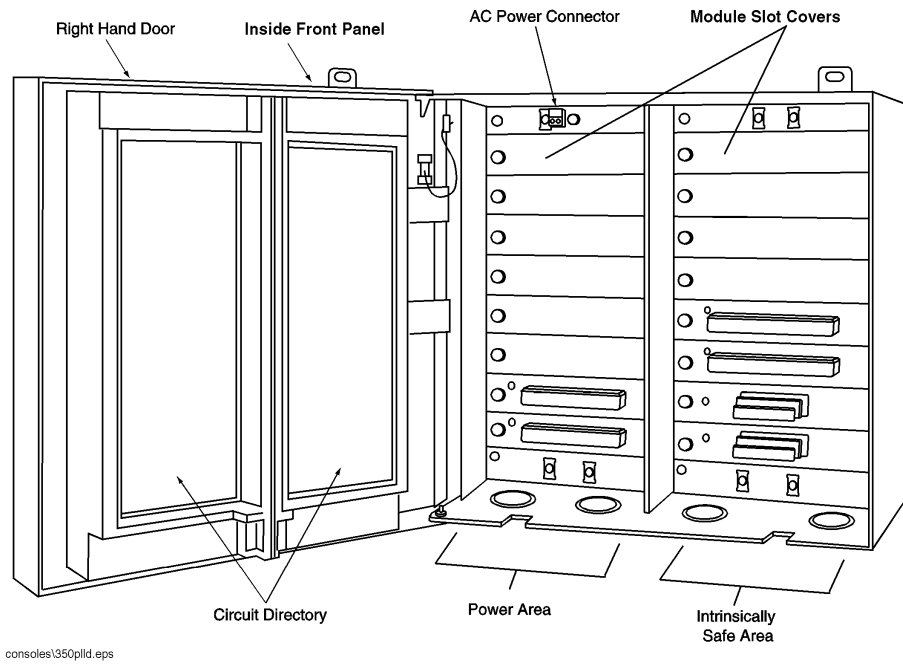

Figure 3. Inside View of TLS-350/350R
2. ALL unused expansion slots MUST be covered (see Figure 3 on page 7).
- Record on the circuit directory (on the inside front panel; see Figure 3 on page 7) the type of module you are installing in this slot.
Note on Figures 3 and 4: *For TLS consoles powered by a 240 VAC source, use a 240 VAC Pressure Line Leak Controller (part number 847490-507) with relay contacts rated at 240 VAC, 2 amps maximum, a 240 VAC 4 Relay Output module (part no. 847490-500), and a 240 VAC I/O Combination (part no. 847490-501).*